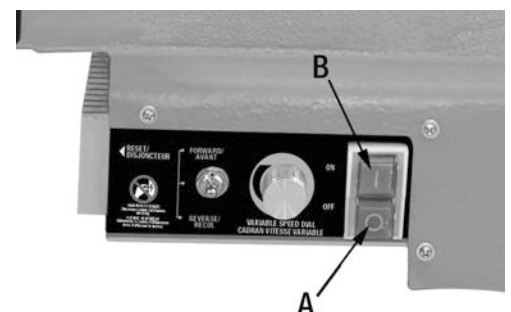

FIGURE 15
1. Your wood lathe is equipped with an On/Off switch (A) Fig.15. To turn the machine on, push the "On" button (A), to turn it off, push the "Off" button (B).